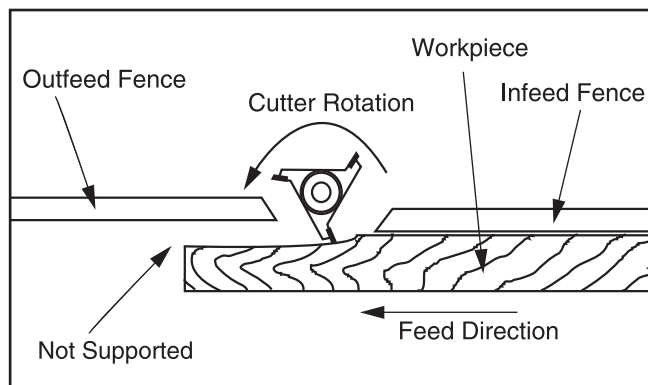

Figure 23. Improper outfeed fence adjustment.
6. When cutter comes to complete stop, adjust outfeed fence to support new profiled edge. Lock outfeed fence into position and retest. See **Figures 23–24** for improper and proper outfeed fence positioning.